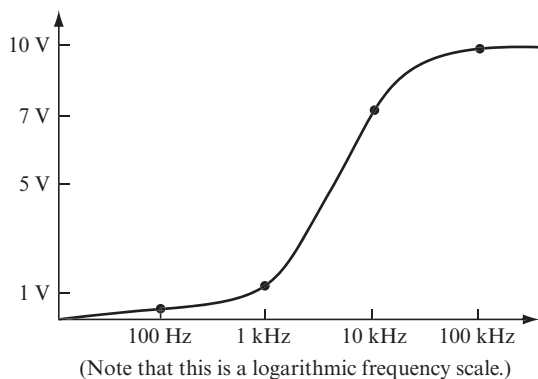

FIGURE 6.9
- E.** The curve is shown in Figure 6.9.
9. In the blank graph shown in Figure 6.11, plot V_{out} versus f_{in} with the voltage on the vertical axis and the frequency on the X axis. The curve should have the same shape as the curve shown in Figure 6.9, but don't worry if your curve is shifted slightly to the right or left.